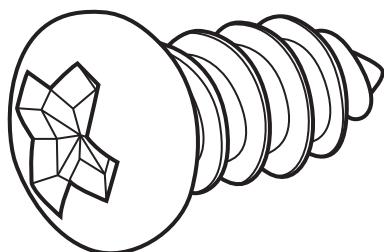

Fig. 5
- (b) The case is injection moulded with the base held in place by self tapping screws as shown in Fig. 5.**